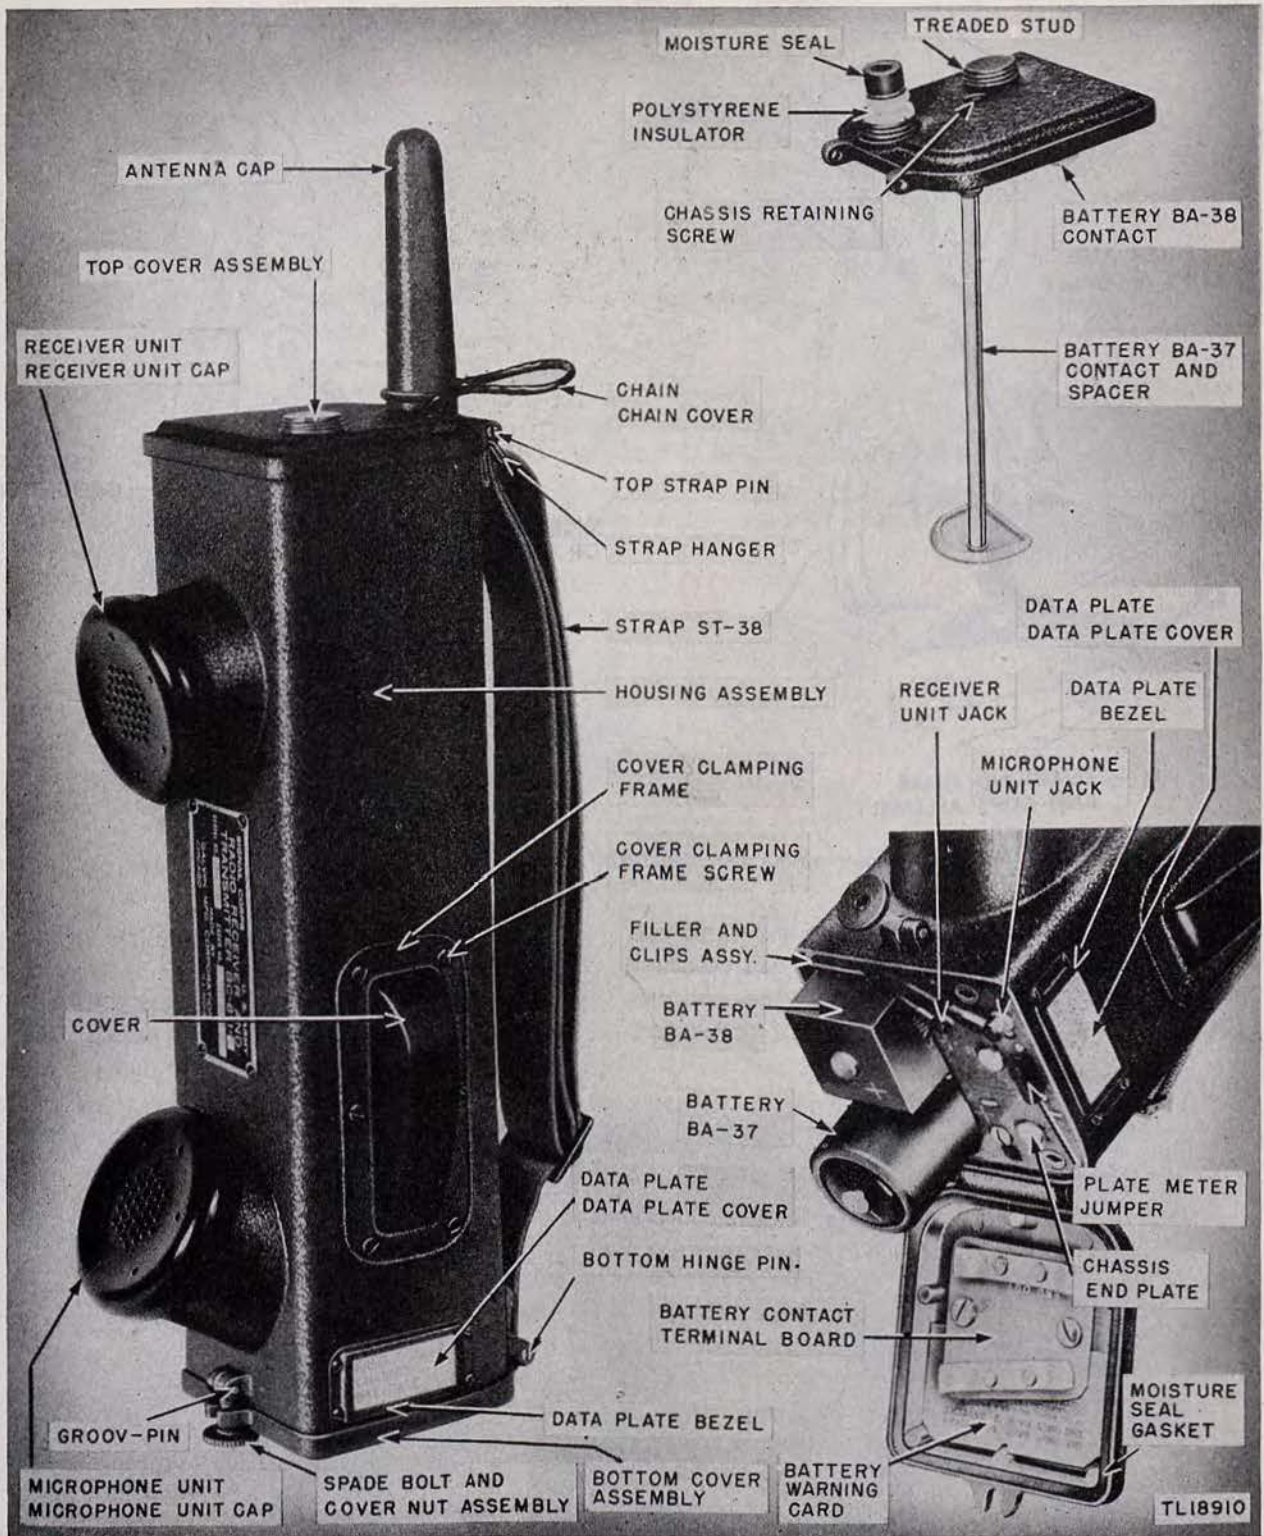

Figure 13. Location of parts, Radio Receiver and Transmitter BC-611-(\*).
*a. BATTERY.* Open bottom cover of set by unscrewing the knurled nut of the spade bolt and cover nut assembly. Remove both batteries. (If batteries do not come out easily, they may be pushed out of housing after removal of chassis and top cover.) (See fig. 13.)
and receiver (earphone) unit lead from chassis end plate jacks. Remove data plate, and data plate cover from housing by sliding out toward the bottom of housing when bottom cover is open. (See fig. 13.) Unscrew chassis retaining screw on top cover of housing and slide chassis out of housing. (If chassis does not come out easily, it may be pushed out after removing top cover.)